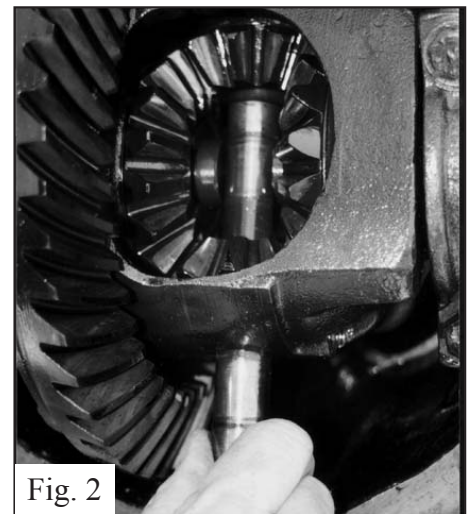

Fig. 2
5. Next remove the center shaft (figure 2).